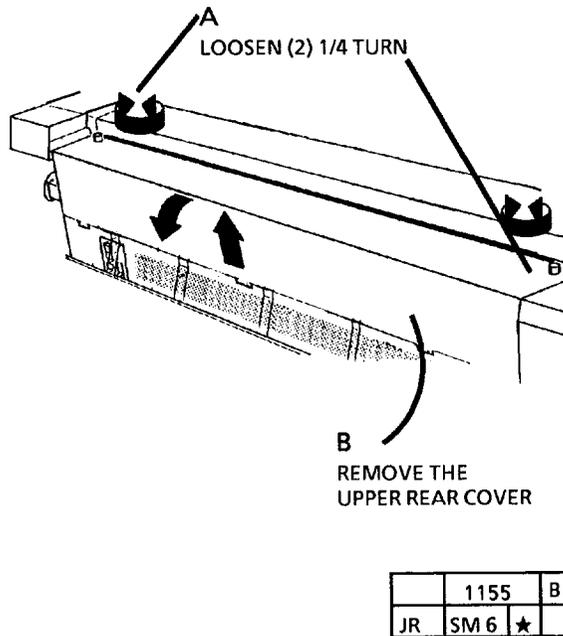

Figure 2. Remove the Upper Rear Cover
5. (FIGURE 2): REMOVE THE UPPER REAR COVER.